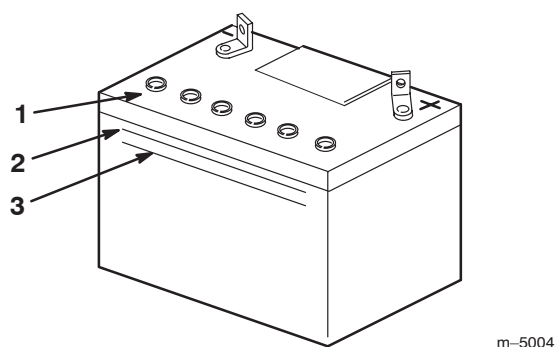

Figure 62
3. Look at the side of the battery. The electrolyte must be up to the **upper** line (Fig. 62).
Note: Do not allow the electrolyte to get below the lower line (Fig. 62).
3. Remove the vent caps from the battery (Fig. 62).
4. Slowly pour distilled water into each battery cell until the level is up to the **upper** line (Fig. 62) on the battery case.
5. Wait 5 to 10 minutes after filling the battery cells, then add distilled water, if necessary, until the electrolyte level is up to the **upper** line (Fig. 62) on the battery case.